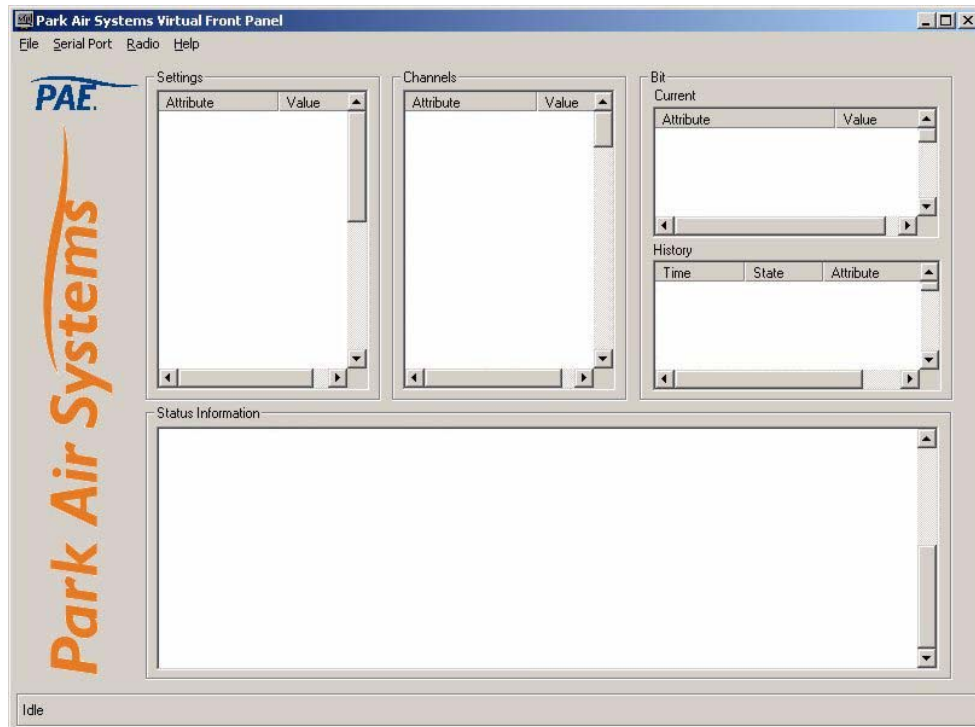

Fig 3 Blank VFP Screen
- (1) Using a radio to PC Serial Interconnection Lead, Park Air part number 17E12600001, connect the radio's front panel Microphone/Diagnostics connector to the PC's Com Port 1 or Com Port 2 (note which Com Port is used).
- (2) Run up the VFP software and check that a blank VFP screen (see Fig 3) is displayed.